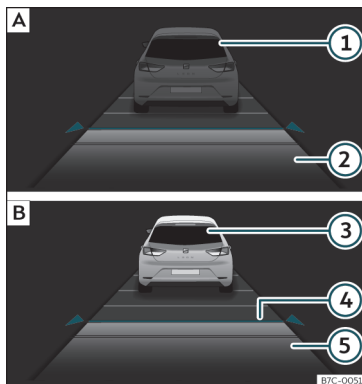
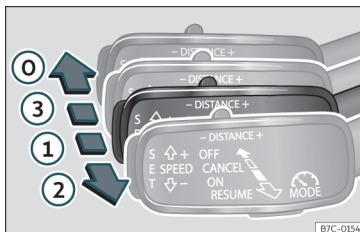
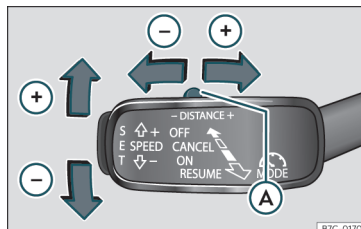

Fig. 210 On the instrument panel display: (A) ACC inactive (Standby). (B) ACC active.
Fig. 212 On the left of the steering column: third lever for operating the Adaptive Cruise Control.
Fig. 213 On the left of the steering column: third lever for operating the Adaptive Cruise Control.
Indications on the display >>> **Fig. 210:**
When the Adaptive Cruise Control (ACC) is connected, the green control lamp  will light up on the instrument panel, and the programmed speed and ACC status will be displayed >>> **Fig. 210**.
Once you are driving, if you wish to set the current speed as the vehicle's cruise speed and activate the ACC, press the **SET** >>> **Fig. 213** button. If you wish to increase or reduce speed by intervals of 1 km/h (0.6 mph), move the lever to position ② >>> **Fig. 212** or press the **SET** button, respectively.
The set speed can be changed when the vehicle is stopped or during driving, as you like. Any modification to the programmed speed will be shown on the bottom left part of the instrument panel display >>> **Fig. 210**.
To increase/reduce the distance level, press the rocker switch towards the left/right >>> **Fig. 213 A**.
- To activate the ACC, with the third lever in position ① press the **SET** button or move the third lever of the ACC to position ② >>> **Fig. 212**. At this point, the image of the ACC on the instrument panel display will switch to Active mode >>> **Fig. 210**.
To disconnect the ACC move the lever to the ③ position >>> **Fig. 212** (engaged). An **ACC deactivated** message appears and the function is totally deactivated.
If you do not wish to disconnect the ACC, just to switch it temporarily to inactive mode (Standby), move the third lever to position ③ >>> **Fig. 212** or press the brake pedal.